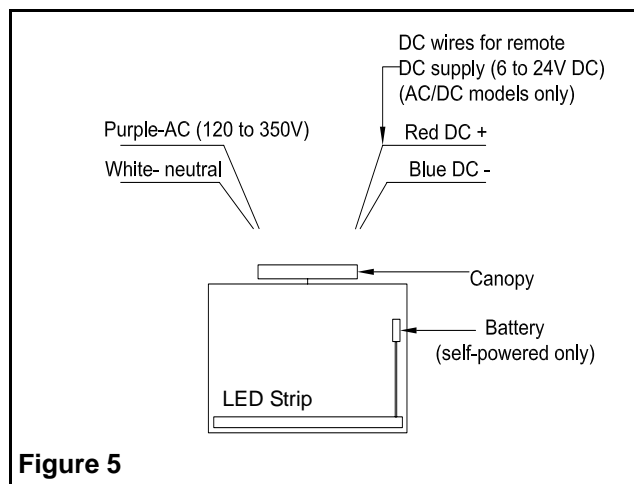

Figure 5
- a. Make the proper connections, our system accepts an input voltage of 120 to 350 VAC (see fig. 5). Connect the (120 to 350 VAC) and white (Neutral) leads to the building utility. Feed excess wire into the junction box. For remote power DC units, connect the red wire to the positive of the DC supply and the blue to the negative (6 to 24VDC).